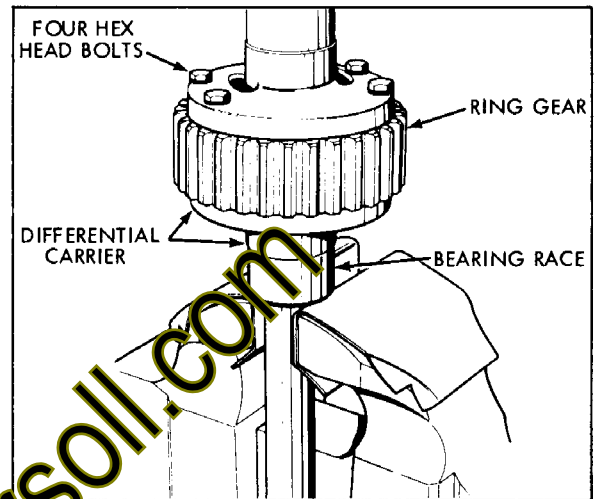

Figure 3-3
c. Place the differential in a large vise with soft jaws (hex head bolts up). Do not clamp the vise on the bearing race of a differential carrier. (Figure 3-3)